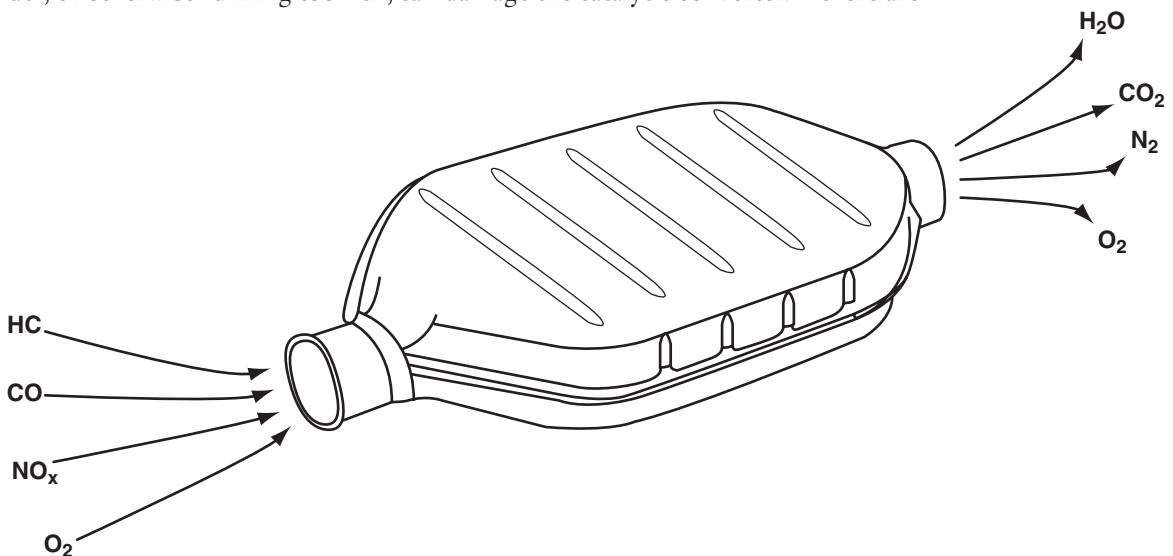

Figure 4-16 The catalytic converter contains catalysts to clean up an engine's emissions before they leave the exhaust system.
As already mentioned, the main pollutants in the exhaust gases are byproducts of incomplete combustion: hydrocarbons (HC), carbon monoxide (CO), and oxides of nitrogen (NO_x). To help clean up the exhaust gases from a gasoline engine, a catalytic converter is included as part of the exhaust system. The catalytic converter contains special metals (platinum, palladium, and rhodium) that help to convert the HC, CO, and NO_x to H_2O water, CO_2 carbon dioxide, and N_2 nitrogen (Figure 4-16). Carbon dioxide is the gas exhaled when you breathe; nitrogen gas makes up 78% of the air you breathe. Thus, a catalytic converter converts harmful gases into relatively harmless, more natural products.